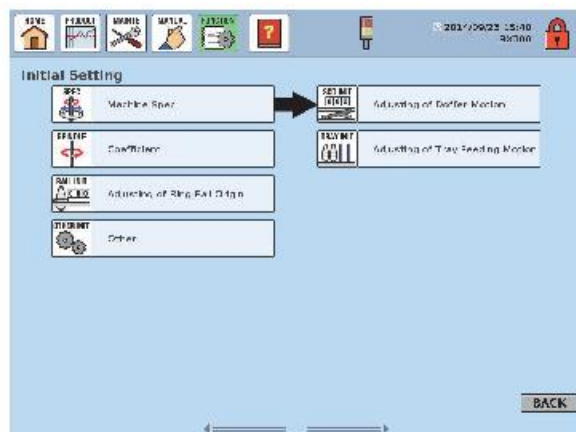
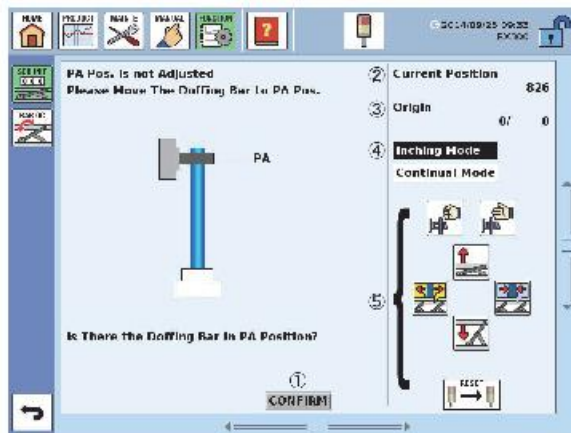

Fig.2 Initial setting-adjustment screen
Fig.3 Doffer motion adjustment screen (when origin setting is incomplete)
- (1) Before adjusting the doffer position adjustment, adjust the ring rail origin.
- (2) On the screen displayed by touching the [FUNCTION] icon on the top menu, select the [INIT] icon for initial setting adjustment to display the password input screen.
- (3) Input password "1414" and touch [ENTER] to display the initial setting-adjustment screen (Fig. 2).
- (4) Touch [SCDE INIT] icon (for doffer motion adjustment) to display the doffer position adjustment screen.
- The screen is as shown in Fig. 3 when the origin setting is incomplete (warning message W-69A is displayed).
■ Explanation on contents of screen display in Fig. 3
- ① Doffing bar PA position check switch
- ② Current doffing bar position (pulse count)
- ③ Origin (preceding value/standard value): Pulse count upon detection by PRS22
- ④ Manual up/down movement mode select switch